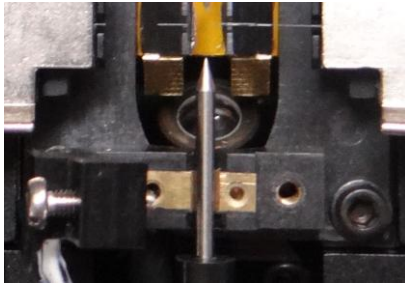

Figure 5.6
3. Take out the electrode from the electrode holder. (Electrode is fixed on the electrode holder, figure 5.6).